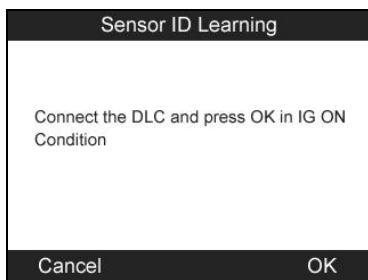

Figure 3.28
5. After the sensors are successfully activated, follow the instruction screen to turn the ignition on and connect the tool with the vehicle's DLC again, then press the **Y** button to continue the **TPMS Diagnosis** procedure, or press the **N** button to exit. (Figure 3.28)